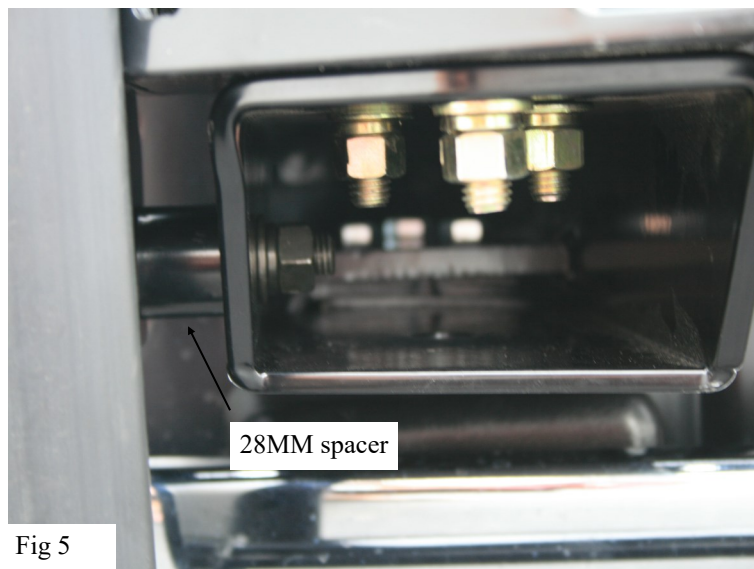

Fig 5
9. To install the HDX grille guard on 2011+ vehicles or the Sportsman grille guard on 08-10 vehicles, take the grille guard and align it to the outside of the winch tray, attach the grille guard to the winch tray using (4) M12 x 45mm button head bolts, (8) M12 flat washers, (4) M12 lock washers, and (4) M12 hex nuts. To attach the grille guard to the mounting bracket take (2) 28mm round spacers and place them between the mounting bracket and the grille guard, attach using (2) M12 x 75mm button head bolts, (4) M12 flat washers, (2) M12 lock washers, and (2) M12 hex nuts Fig 5. Do not fully tighten at this time.